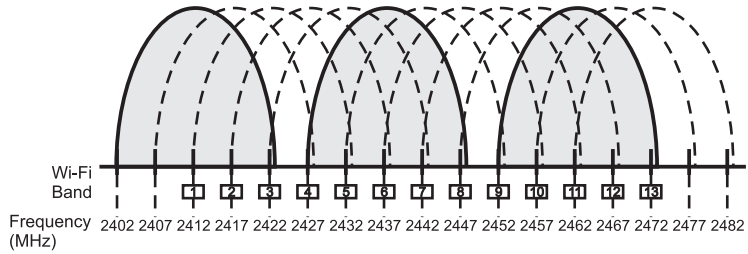

Fig. 27
- (A) Position the receiver at least 5-meter away from WiFi, Bluetooth or other 2.4 GHz transmitting devices.
- (B) Line-of-sight between the transmitter and receiver provides the ideal reception range.
- (C) Power supply voltage should not be less than 9V and not higher than 12V. Ensure at least DC 300mA. Deficient supply voltage causes instable operating or malfunction and exceeding supply voltage causes shorter the product life cycle and possible short or damaging circuits.
- (D) User can scan environment for WiFi devices with smartphone app, normally WiFi channel selections are 1, 6, 11.
- (1) When there is WiFi channel selection 1, receiver channels can be set at 01 and 10 for non-interfering channels. Or select a lesser interference channels like 02, 03, 04, 05, 06, 07, 08, 09.
- (2) When there is WiFi channel selection 6, receiver channels can be set at 01 and 11 for non-interfering channels. Or select a lesser interference channels like 02, 03, 04, 05, 06, 07.
- (3) When there is WiFi channel selection 11, receiver channels can be set at 01 and 12 for non-interfering channels. Or select a lesser interference channels like 02, 03, 04, 05, 06, 07, 08, 09.
(H) Wi-Fi Channel Distribution, Fig. 27: